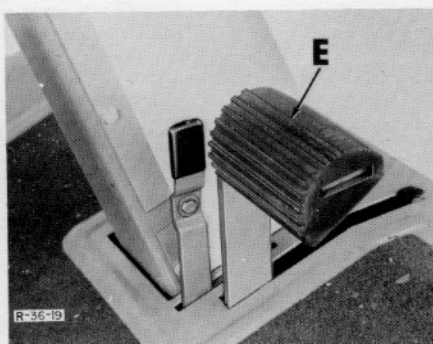

Figure 17
1. Adjust the clutch/brake rod "C" Fig. 16 by removing the pedal clevis pin and adjusting the clevis so that the pedal shaft "E" Fig. 17 is vertical, or in the extreme rear of the slot. Replace the clevis pin and secure with a cotter pin.